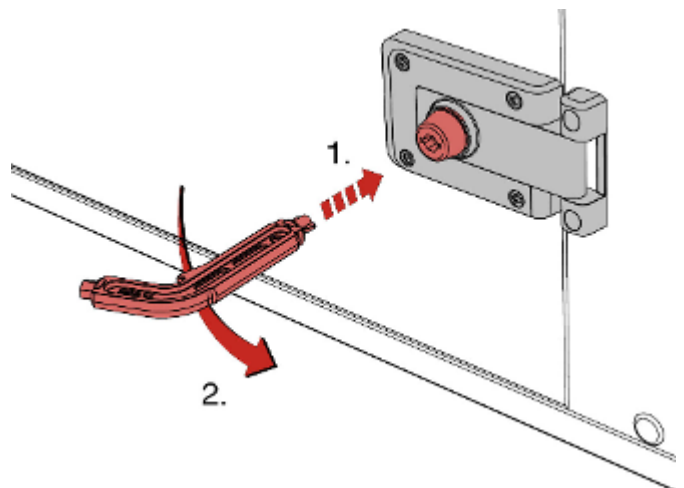

Fig. 53: Inspection access door with safety lock
- ▶ Insert the TROX special key into the lock and turn it anti-clockwise as far as it will go ( Fig. 53 ).